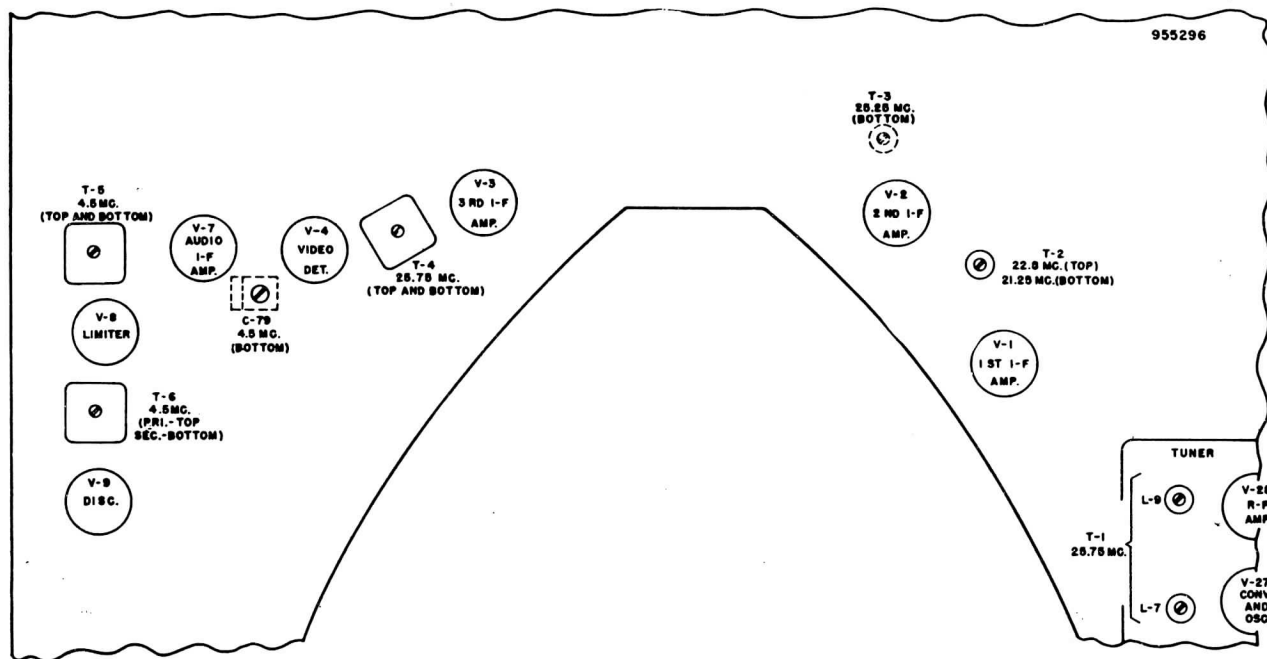

Figure 5-7—Location of Alignment Points
- 6) Refer to figure 5-7 for location of alignment points; figure 5-3 for the schematic diagram.